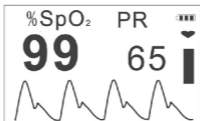
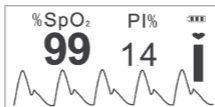
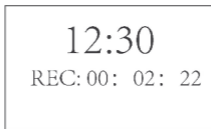

Figure 9A Default Screen Display
Figure 9C
Figure 9D Real Time Clock
5. The oximeter will automatically start measurement in 2 seconds. Then the default screen will be displayed (Figure 9A). User can read the values and view the waveform from the display screen.
- Short press “**■**” key to switch display modes circularly, display screen will be switched among the three measure screens displays as shown in Figure 9A, Figure 9C and Figure 9D.
- The measurement will start automatically when the finger is inserted into the SpO₂ probe, so the data recording (SpO₂ and PR value) starts simultaneously as well. The display is as shown in Figure 9A.